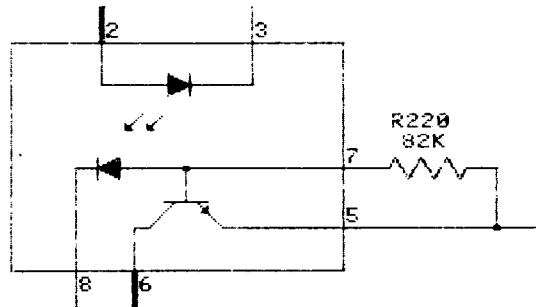

Figure C-4. Schematic 1 Changes (Change No. 11)
**Schematic 1 Changes.** Refer to Figure C-4 for the changes.